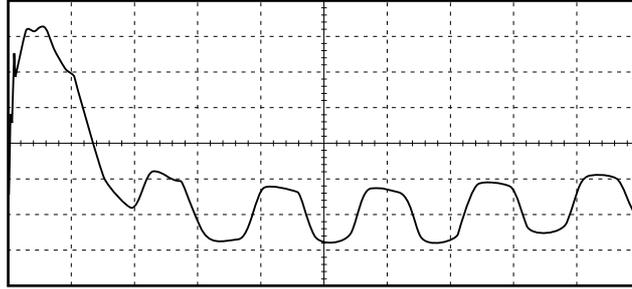

Figure 6. FM detector.
- 12 With the test point switch on the selector box set to **TPLP** and RXEN switch set to **pulse** check that the signal is as in figure 6. Amplitude 75 to 125 mVp-p.